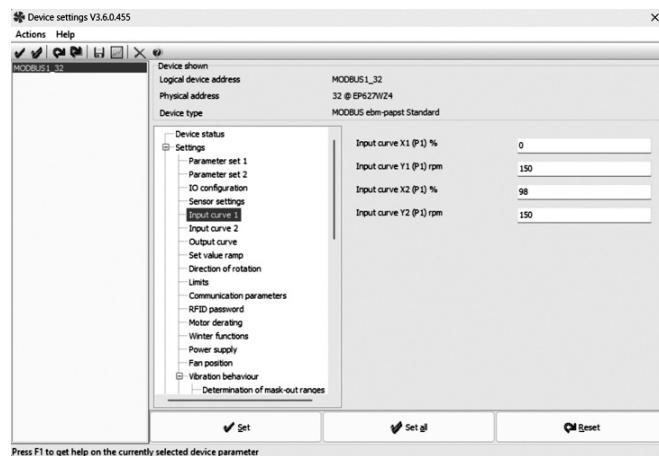

Fig. 26 — EC-Control Setting Input Curve 1 For 20% Speed Operation
- These parameters are for running the fan at 20% speed (see Fig. 26). Once the 10V signal from the dissipation